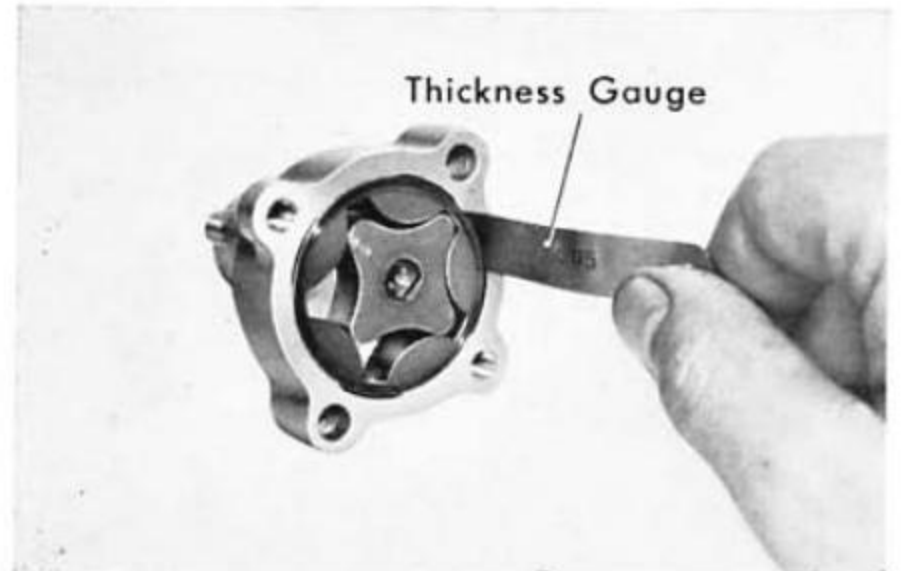

Fig. 1J-8
3. Assemble the pump so that the outer rotor with the chamfered corner is toward the inside and then insert the inner rotor on the pump shaft (Fig. 1J-9).